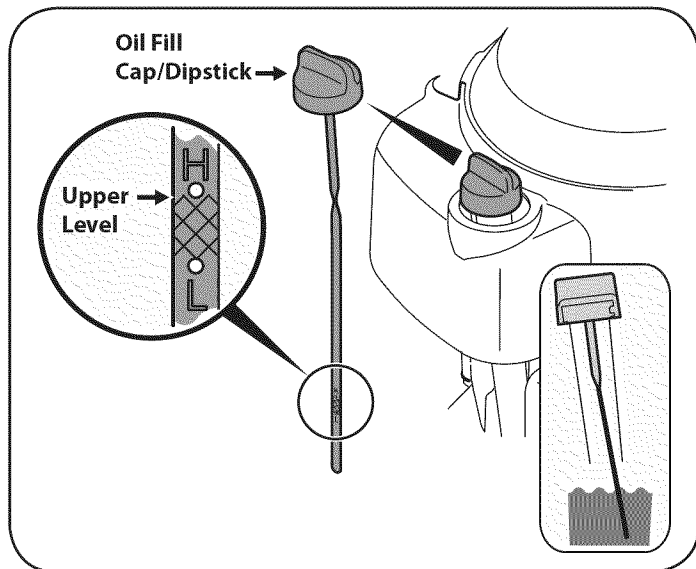

Figure 11
2. Insert the dipstick into the oil filler neck. Turn the dipstick a 1/4 turn into the locked position to fully seat. See Figure 11.
4. If the level is low, slowly add oil to the upper limit on the dipstick. See Figure 11 inset.